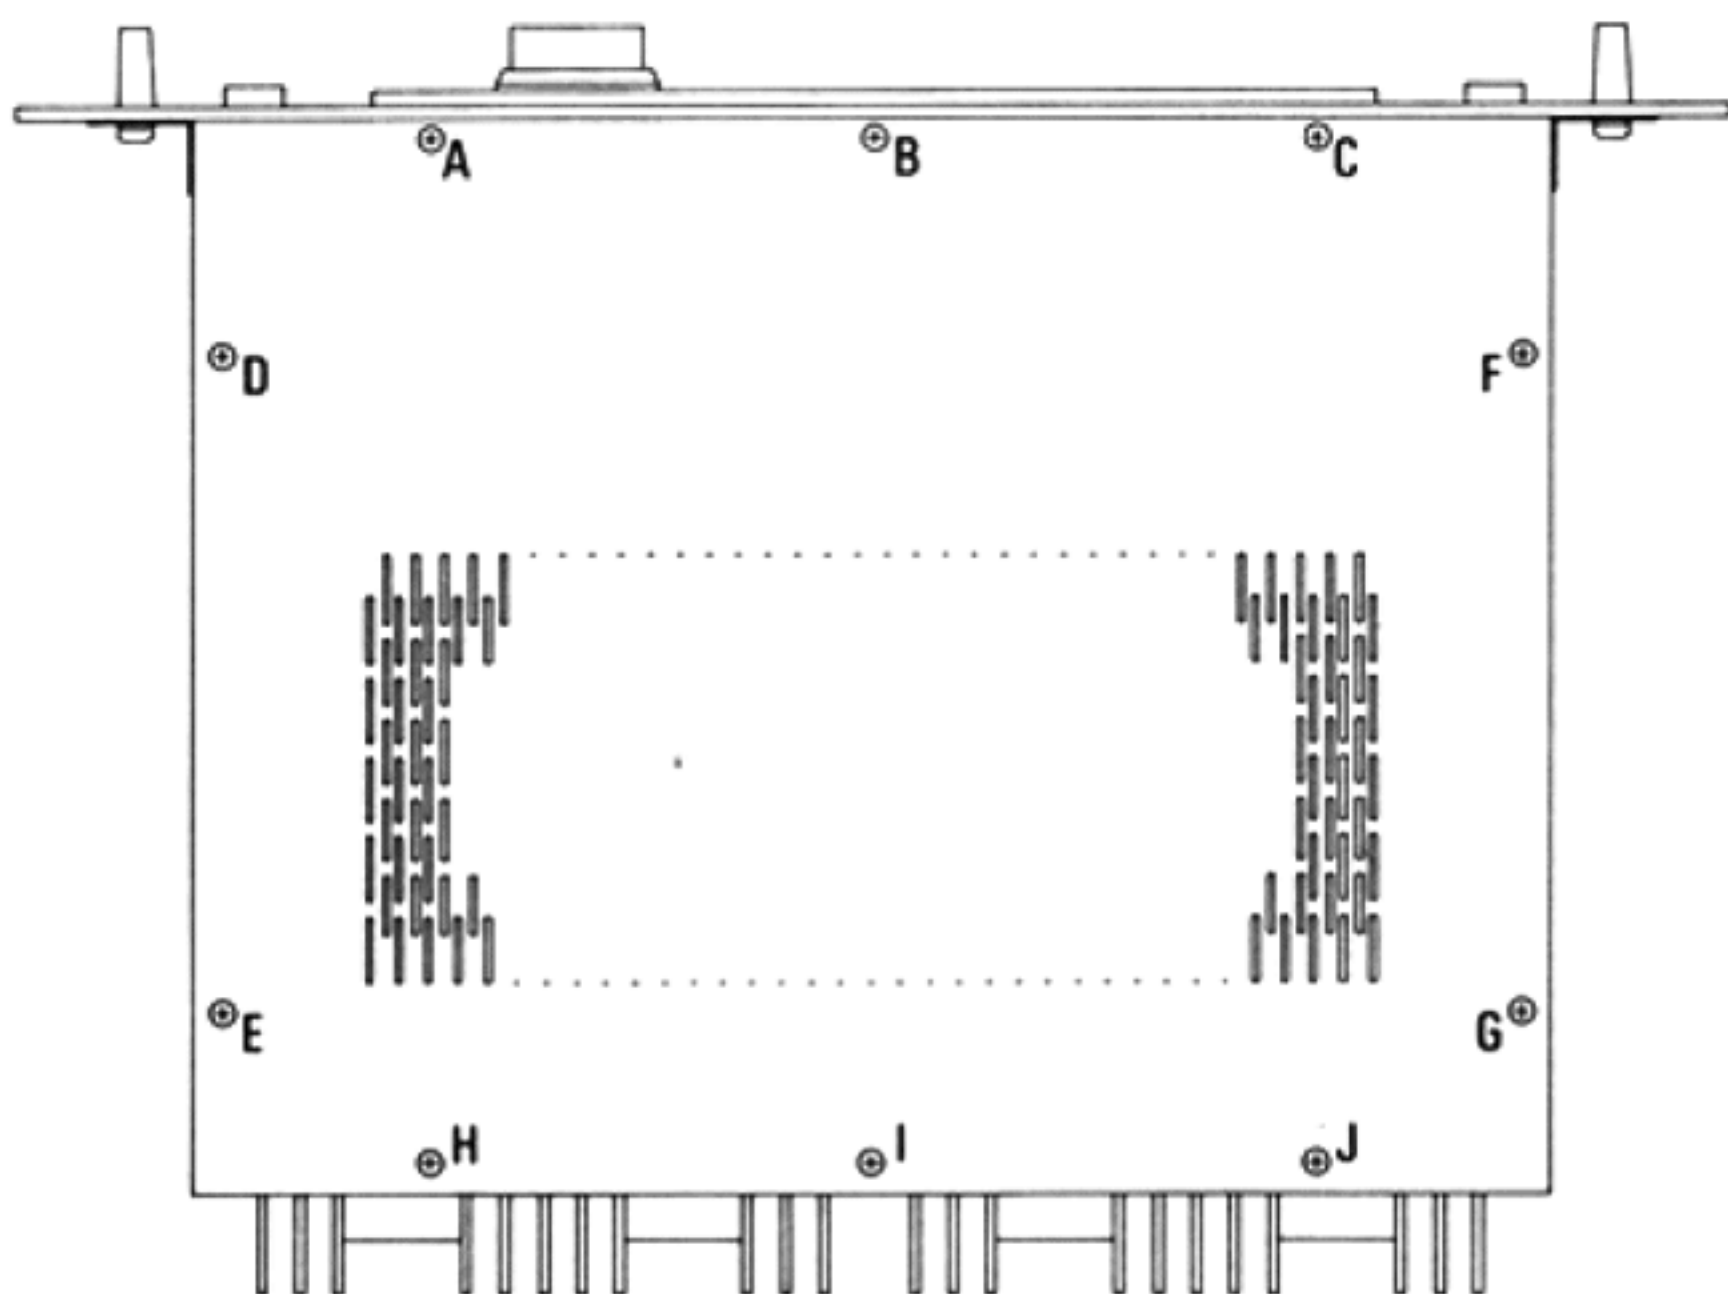

Fig. 1-1 TOPVIEW
- 1. Remove Top Cover. (Fig. 1-1, remove screws A-J.)